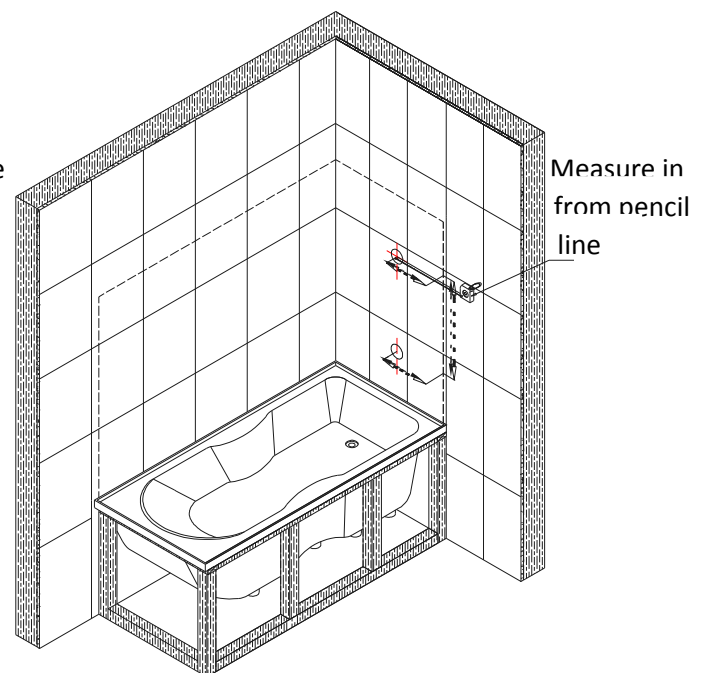

Fig6
4. Using the pencil line measure the position onto the lining of any fittings requiring holes to be made in the lining such as mixer / taps, shower rose. **FIG6**. Then make the correct sized holes in the lining to match your chosen fittings.